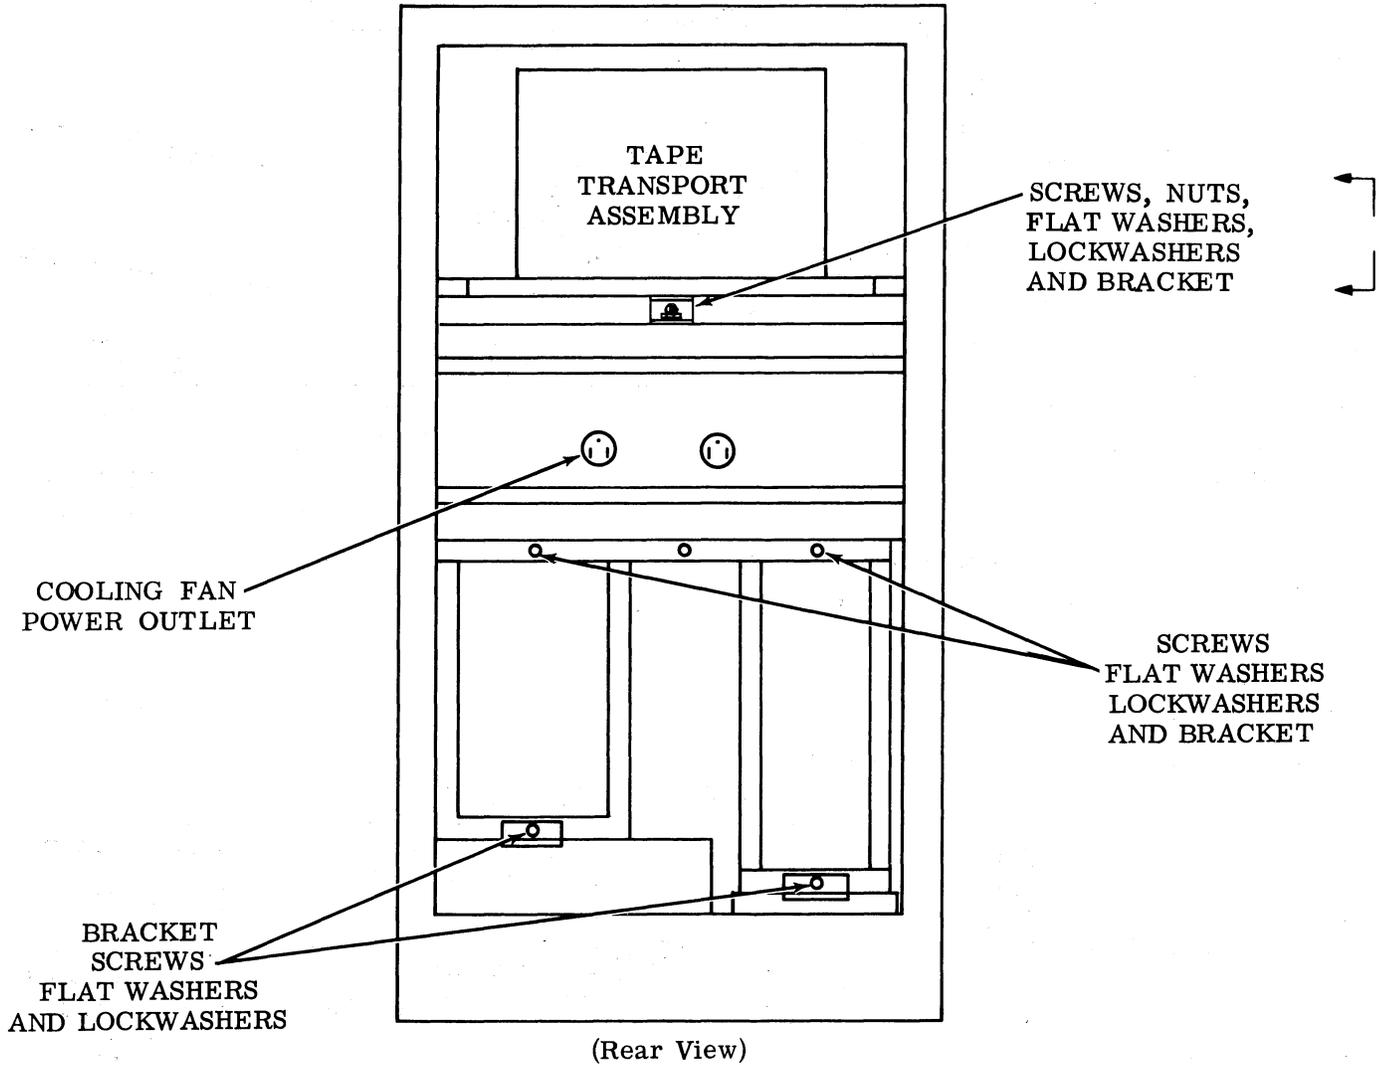

Figure 4 - Location of Shipping Hardware
2.07 Remove and discard the brackets, screws, nuts, flat washers and lockwashers from upper rear of modules (Figure 4).
2.08 Remove and discard the screw, flat washer, lockwasher and angle iron from lower rear of the receiving distributor module. Remove and discard the screws, flat washers, lockwashers and angle iron from lower rear of the station control module (Figure 4).